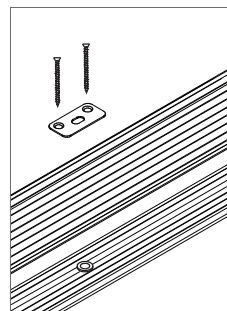

Figure 4
Align sill keeper plate center hole with plug. Orient keeper plate so that screw holes are toward sill approach. Pre-drill screw holes 1/8" diameter by 2-1/2" deep. Fasten the sill keeper plate with (2) #10 x 2-1/2" screws. Do not over-tighten keeper plate screws. See Figure 4.